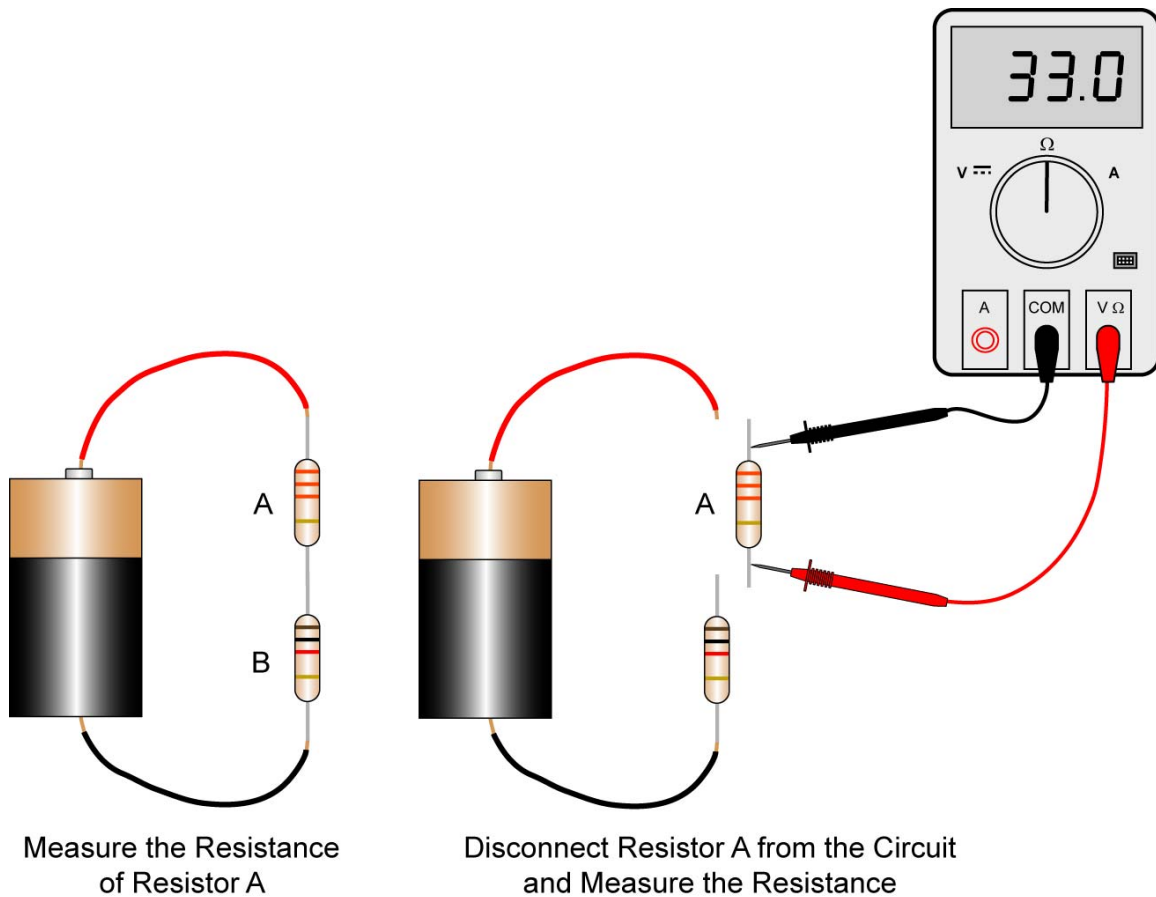

Figure 15: Measuring the Resistance in a Circuit
- When measuring resistance, the resistor must be disconnected from the circuit (Figure 15).